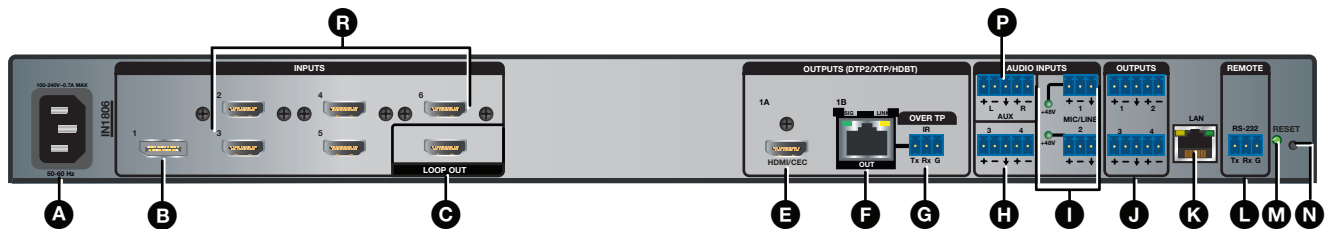
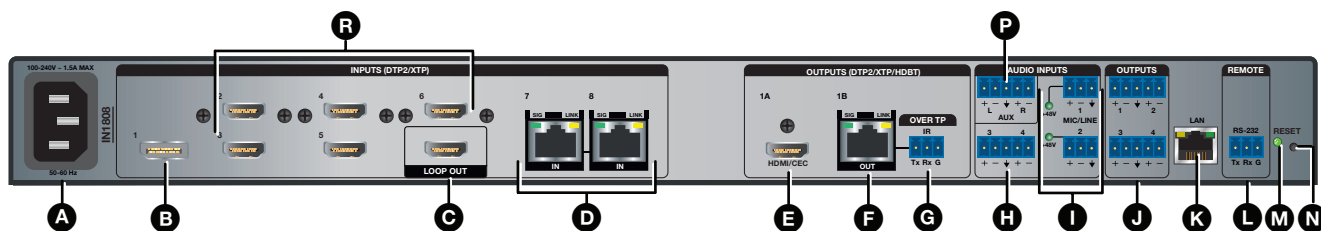
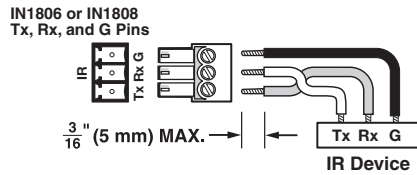

Figure 3. IN1806 Rear Panel
Figure 4. IN1808 Base Model Rear Panel
Figure 7. Wiring the Over TP IR Connector
Figures 3 through 6 show the rear panels of the IN1806 and the three IN1808 Series models (see the legend on the next page).
- A AC power connector** — Connect a standard IEC power cord (provided) from a 100 to 240 VAC, 50-60 Hz power source to this connector (see figure 3 on page 12 and figures 4 through 6 on the previous page).
- B DisplayPort input connector (input 1)** — Connect a DisplayPort source to this female DP connector (see figure 3 and figures 4 through 6).
- C HDMI (with CEC) Loop Out connector** — Connect a monitor to this buffered loop out connector (see figure 3 and figures 4 through 6). This output can be tied to any input via SIS (see SIS Configuration and Control beginning on page 51) or PCS (see the *IN1806 and IN1808 Series Help File* within the IN1806 and IN1808 module of PCS).
- D DTP2/XTP input connectors (inputs 7 and 8)** — (IN1808 Series only) Connect one or two DTP transmitters to the DTP2/XTP RJ-45 input connectors 7 and 8 (see figures 4 through 6 on the previous page). These connectors also allow for remote powering of DTP transmitters.
- E HDMI (with CEC) output connector (output 1A)** — Connect an HDMI or DVI (with an appropriate adapter) output device to this HDMI output connector for HDMI video with embedded audio (see figure 3 and figures 4 through 6). This connector and the DTP2/XTP/HDBT output connector are mirrored, meaning that they display the same image.
- F DTP2/XTP/HDBT output connector (output 1B)** — This connector and the HDMI output connector (1A) are mirrored, meaning that they display the same image (see figure 3 on page 12 and figures 4 through 6 on page 13).
- G Over TP IR pass-through connector** — To transmit or receive infrared data to and from a sink connected to a DTP or DTP2 receiver, XTP matrix, or HDBaseT display, connect a control device to the 3-pole Over TP IR captive screw port (see figure 3 on page 12 and figures 4 through 6 on page 13). Figure 7 shows how to wire the connector.
- H Analog audio line input connectors 3 and 4** — Connect line level analog audio sources to audio input connectors 3 and 4 on the 5-pole captive screw connector for balanced or unbalanced stereo audio (see figure 3 and figures 4 through 6). Connectors are included with the unit, but the audio cable is not (see figure 10 on page 19 for wiring).
- K LAN connector (IN1806 and IN1808 base model only)** — To control the IN1806 and the IN1808 base model through Ethernet, connect a LAN or WAN to this RJ-45 LAN connector (see figure 3 on page 12 and figures 4 through 6 on page 13). Ethernet control allows you to configure and control the scaler from a remote location via SIS commands, the PCS software, or the embedded web pages.
- L Remote RS-232 connector** — Connect a host device to this 3-pole captive screw connector for RS-232 serial control of the scaler (see figure 3 and figures 4 through 6). The default baud rate is 9600.
- M Reset LED** — This green LED remains lit while the IN1806 and IN1808 Series has power (see figure 3 and figures 4 through 6). While the **Reset** button (see N, below) is being pressed and held, this LED blinks every 3 seconds to indicate the level of reset initiated if the button is released at that point (see Reset Modes on page 46 for more information).
- O Amplified audio output connector** (see figures 4 through 6) —
- P Aux line audio input connector** — Connect a line level analog audio source to this 5-pole captive screw connector for balanced or unbalanced mono or stereo audio (see figure 3 and figures 4 through 6). The Aux input is shared and can be associated with one or more video inputs (see Analog Audio Connections on page 19).